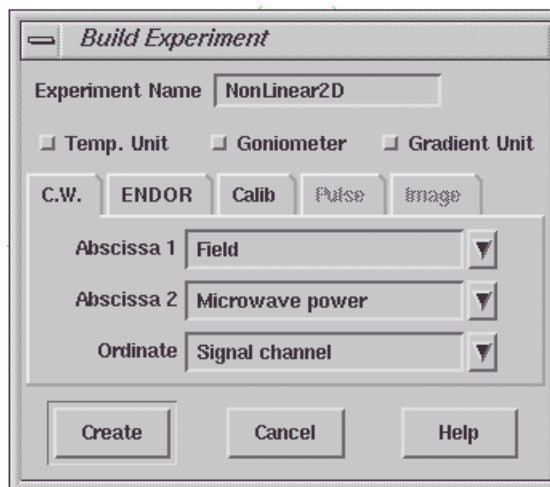

Figure 7-8 Creating a 2D experiment.
1. **Create a 2D experiment.** Click the New Experiment button. Select Field as **Abscissa 1**. Select Microwave Power as **Abscissa 2**. Click **Create** to close the dialog box. (See Figure 7-8.)